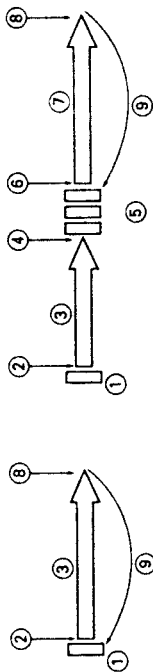

Figure 12
- Figure 12 shows the relationship between the play and back cue operations.